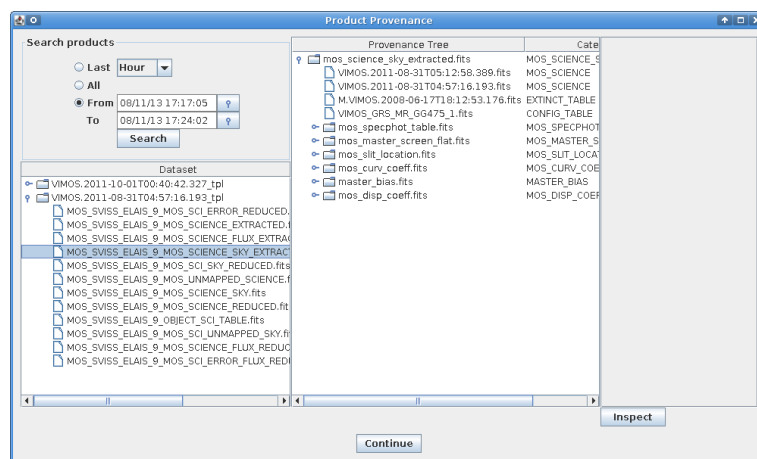

Figure 4.5: The Provenance Explorer shows all datasets reduced in previous executions together with the full reduction chain for all the pipeline products.
9. When the reduction of the current `DataSet` finishes, a pop-up window called *Product Explorer* will appear showing the datasets which have been so far reduced together with the list of final products. This actor allows the user to inspect the final data products, as well as to search and inspect the input data used to create any of the products of the workflow. Figure 4.5 shows the *Product Explorer* window.